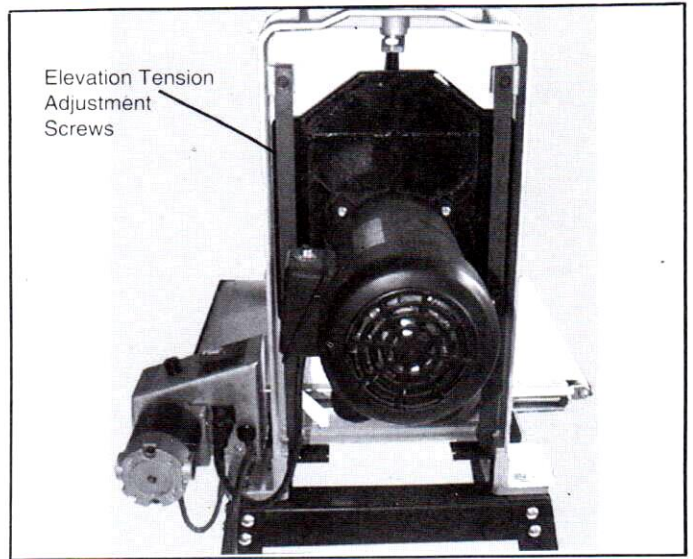

Figure 9
1. Check the tightness of the Elevation Tension Adjustment Screws (Figure 9). The tightness of these screws must be adjusted to allow smooth height adjustments, while ensuring a tight enough fit to limit drum deflection. (If the screws are too loose, the drum will deflect during use, causing an uneven sanding surface. If the screws are too tight, sanding drum height adjustments will be difficult.)